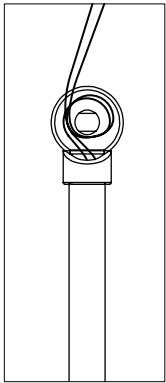
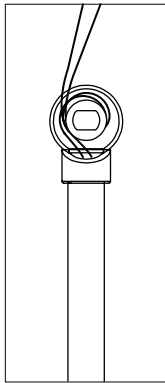
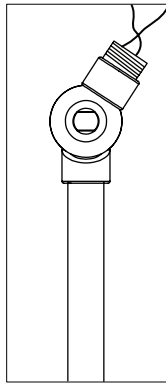
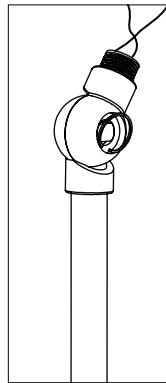

Fig. 1
Fig. 2
Fig. 3
Fig. 4
6. Loop the Electrical Cords around the Male Swivel Half (attached to Drop Assembly) as shown in Fig. 1. Place Swivel Washer on top of looped cords (Fig. 2). Place Female Swivel Half over looped cords and Swivel Washer (Fig. 3). Position the Swivel Spring and Swivel Screw in place (Fig. 4/5). Tighten the Swivel Screw with flathead screw driver.